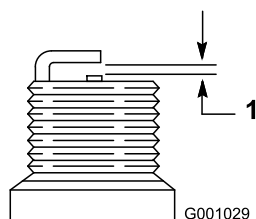

Figure 43
4. Set the gap between the electrodes on a new spark plug at 0.76 mm (0.030 inch) as shown in Figure 43.